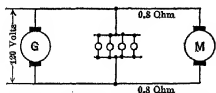

FIG. 76. Voltage at generator is maintained at 120 volts.
**Prob. 24-3.** In Fig. 76, each lamp takes 2 amperes. The motor takes 10 amperes. The voltage across the lamps must be 112 volts.
**Prob. 25-3.** In Fig. 76, assume the resistance of the line wires from the generator to the lamps to be 0.26 ohm each, and the voltage across the lamps to be unknown. What will be the voltage across the motor when the lamps are not running?